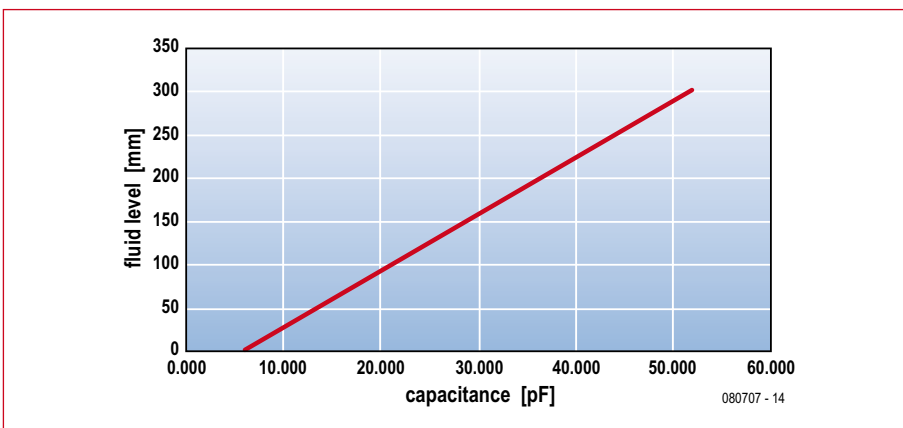

Figure 6. The capacitance increases linearly with the liquid level.
**Sensor tube data (for Figure 6)**
tric constant for water. **Figure 6** shows the capacitance as a function of liquid level for a standpipe sensor with the dimensions given in **Table 2**.